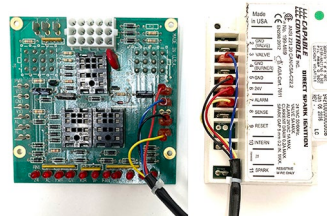

Figure 17
4. Attach both 8075986 harnesses to the GIVEG board and modules using the **Full Vat** (Two Capable Control Modules) chart to the right, for wire connections (see Figures 17 and 18). **NOTE:** Both harnesses have a blue/white wire.
4. Attach both 8075987 harnesses to the GIVEG board and modules using the **Dual Vat** (Two Capable Control Modules) chart to the right, for wire connections (see Figures 17 and 18 above). **NOTE:** Both harnesses have a have a solid blue wire.